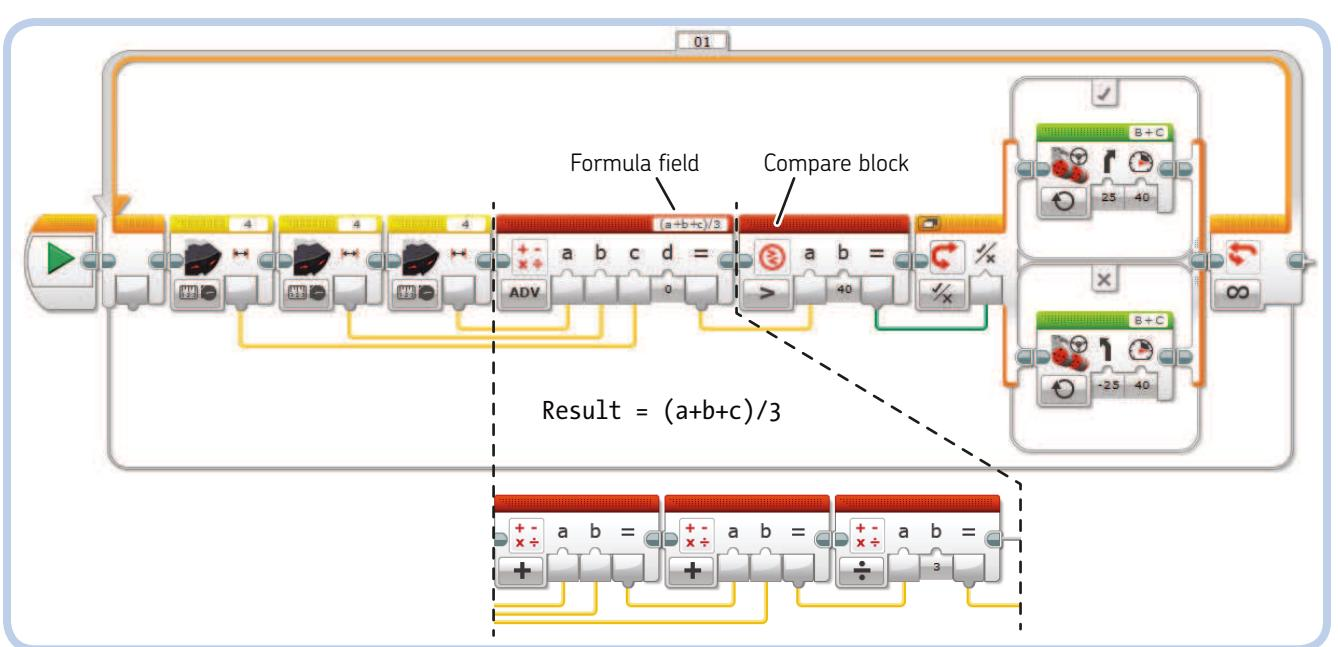

Figure 7-1: This wall-following program uses an average of three IR Sensor readings.
This result is the *arithmetic mean*. Calculating the mean is an effective method for reducing measurement noise because these random repeated errors tend to be distributed evenly around zero; that is, positive and negative errors are equally likely to occur. We can implement this filtering technique in a wall-following program, as shown in Figure 7-1.
As you can see in Figure 7-1, the result of this calculation is carried by a Data Wire into input **a** of a Compare block, which compares it against a fixed threshold (40) as specified in input **b**. The logic output of the Compare block, which is carried by a Data Wire into the input of a Switch block (shown in Flat View), is used to choose between the logic cases True or False. These cases, in turn, make the robot steer left or right, adjusting its trajectory to keep the wall at the correct distance.